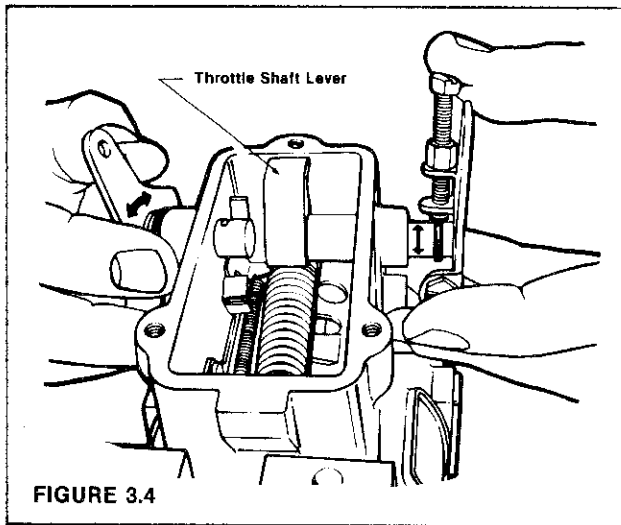

FIGURE 3.4
STEP 4 Withdraw the throttle shaft assembly and throttle shaft lever from the shutoff lever assembly (Figure 3.4). To aid in correct reassembly, note the position of the throttle shaft lever key in relationship to the groove of the throttle shaft assembly.